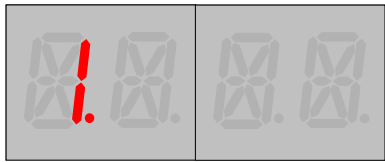
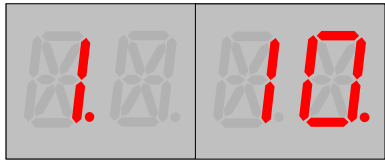

Figure 7a: Entering Settings Mode. SV 1 is displayed with decimal point to the right. No value shown while navigating among SVs.
Figure 7b: SV with its stored value. SV 1 has a stored value of 10. Stored value is indicated with decimal point to the right of the value.
Upon selecting **S** with the 3-way Mode Switch, the Defect Detector enters Settings Mode and will show SV 1, but not a value, on the Display. See **Figure 7a**. Axle Sensors are ignored while in Settings Mode.
While in Settings Mode, the Display shows the number of the current SV, followed by a decimal point. (See **Figure 7a**.) A value for an SV is shown to the right of this decimal point. (See **Figure 7c**.) If this value is the currently stored value for the SV, there is another decimal point to the right of the value. (See **Figures 7b** and **7d**.)
5. Pressing the SELECT pushbutton stops navigation among SVs and displays the stored value of the displayed SV. SV value can now be changed as described in “Changing SV Values” below. See **Figure 7b**.
2. Use UP and DOWN to increase or decrease the displayed SV value. See **Figures 7b** and **7c**.
6. Pressing the BACK pushbutton will stop display of values and return to navigating SVs as described above. See **Figure 7a**.
SV 11, our target, is displayed. Compare to **Figure 7a**.